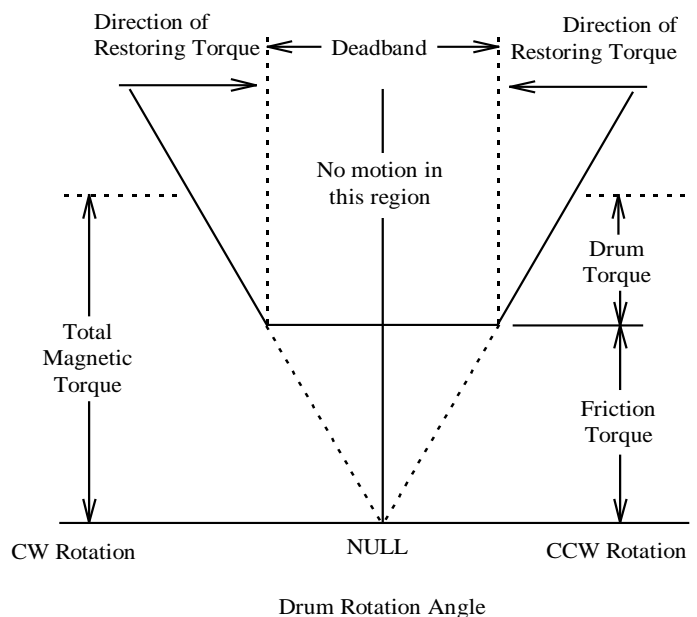

Figure 1 - Compass Drum Rotation vs. Torques
Superimposed on the systematic error is a second error, random in nature, which is the result of a defect termed "deadband". The force which causes a compass needle to align with the Earth's magnetic field is proportional to the sine of the angular difference between the field and the needle, which goes to zero as the angular difference goes to zero (2). As the compass needle or drum swings into alignment, the force causing the motion decreases, so that ultimately, at some position, the force is equal to the pivot friction and the motion ceases. Thus, there is a small angular range, symmetric about the null position, where the needle or drum ceases to turn; this region is the deadband, as shown in Figure 1.